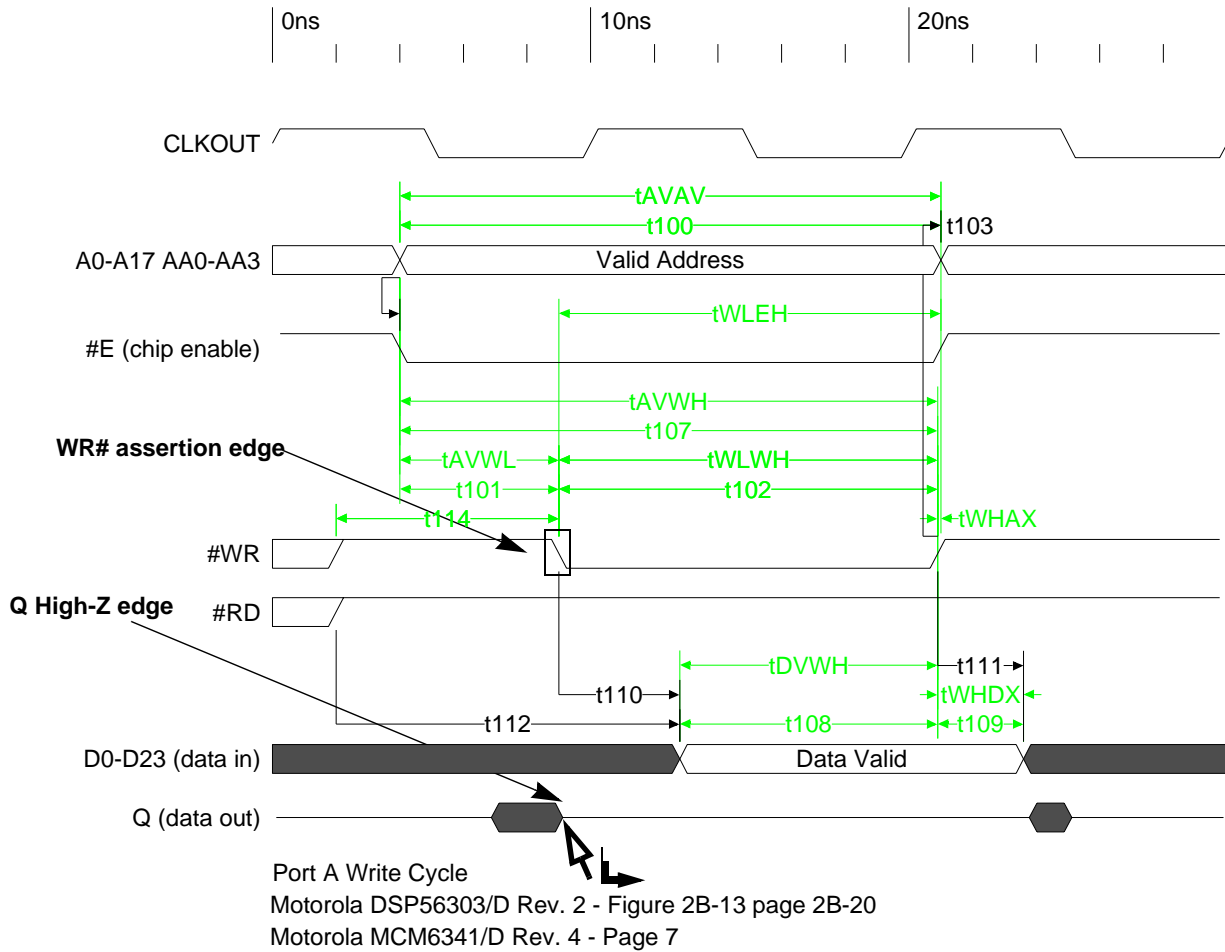

Figure 13. Adding Delays
2. Click on the signal edge that is the source of the delay (**#WR assertion edge** in **Figure 13**).
3. Click on the edge that is the destination of the delay (**Q High-Z edge** in **Figure 13**).